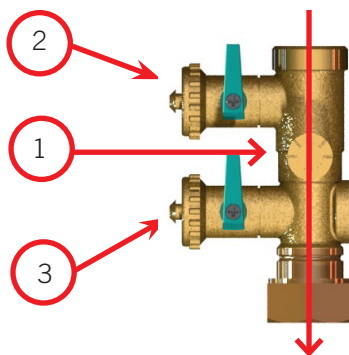

Figure 4.0-1: Drain Fitting Open (Operation Position)
4. Connect the HPAK fill valve position #3 (see figure 4.0-1) to a site mains supply hose or filling station supply hose.